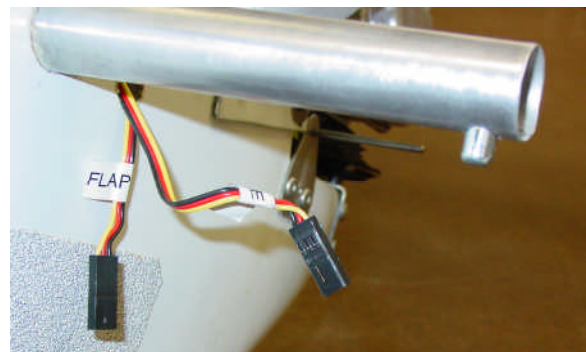

Figure 9. Wing spar and snap button
- First, note the position of the snap button on the bottom of the aluminum wing spar that extends from the fuselage (Figure 9).